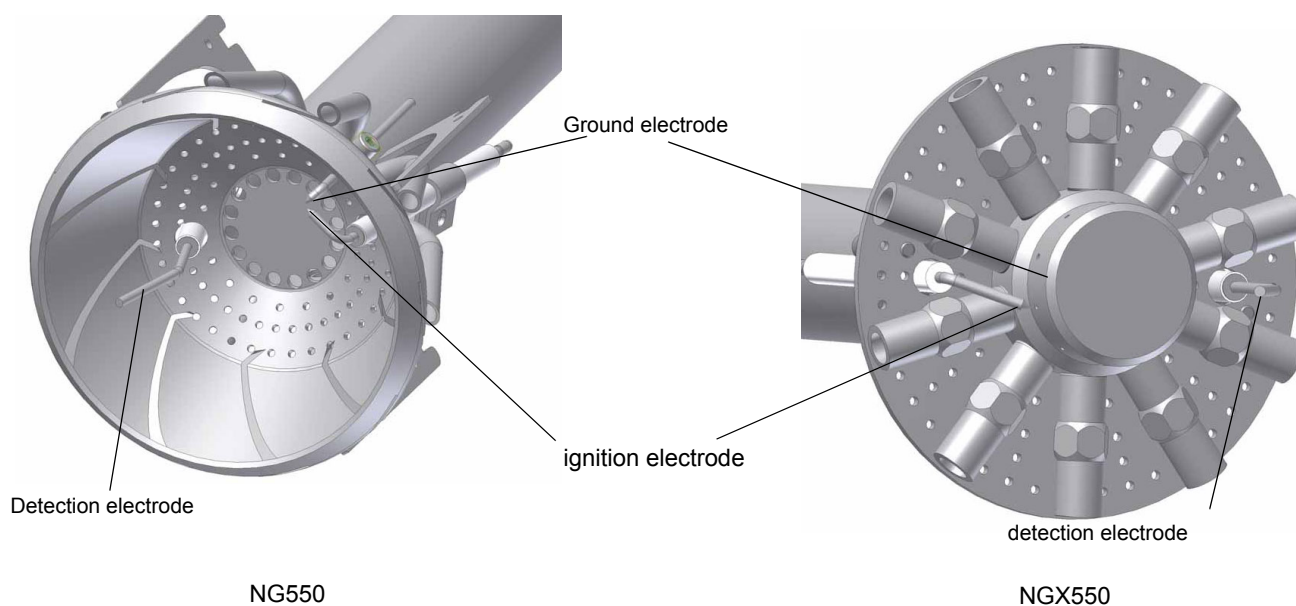
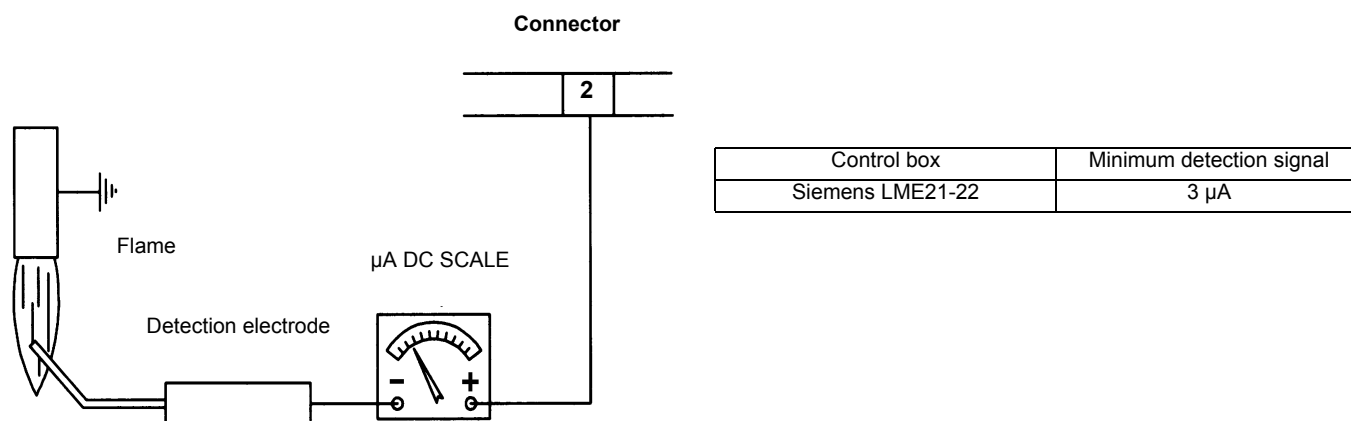

Fig. 50
Fig. 51
- Check the ignition and detection electrodes, clean and adjust if necessary (see Fig. 50). In case of doubt, check the detection current according to the schemes in Fig. 51.
**ATTENTION:** avoid the ignition and detection electrodes to contact metallic parts (blast tube, head, etc.), otherwise the boiler's operation would be compromised. Check the electrodes position after any intervention on the combustion head. The gap between the ignition electrode and the ground is  $4 \pm 5 \text{ mm}$  (see Fig. 50).
If the burner locks out, execute the following inspections. To measure the detection signals refer to the diagrams in Fig. 51. If the signal is less than the value shown, check the position of the detection electrode, the electrical contacts and if necessary replace the detection electrode (see "Electrodes position setting" on page 35).